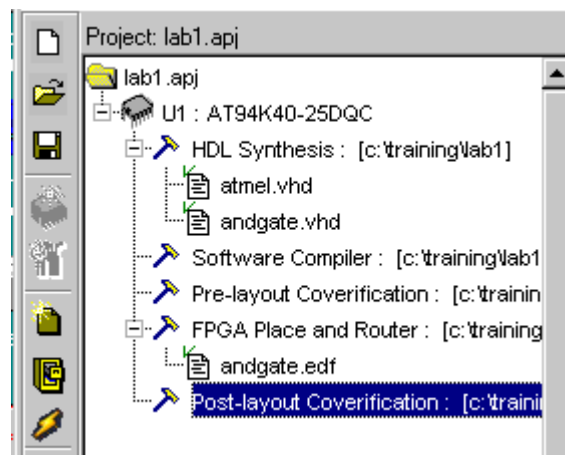

Figure 19. Project Window
1. Double-click on **Post-layout Coverification** under the Project list to add the back annotated files, see **Figure 19**.